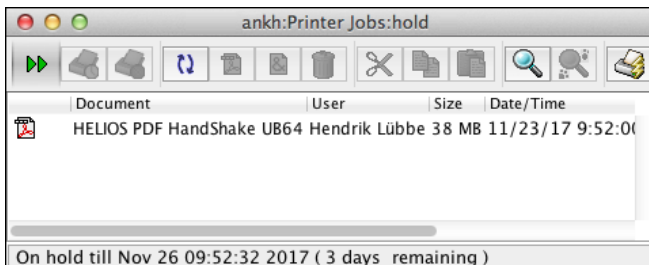

Fig. 8.7: “Create PDF” print job on the “hold” queue
- Double-click the “hold” queue in the `Printers` list to access the file in the job window (Fig. 8.7). The PDF icon in front of the file name indicates that PDF generation has been successful. Double-clicking a job’s PDF icon in the “hold” queue automatically starts your Acrobat application. Also, you can select the job in the “hold” queue window and go to `Save as...` in the `File` menu of HELIOS Admin.